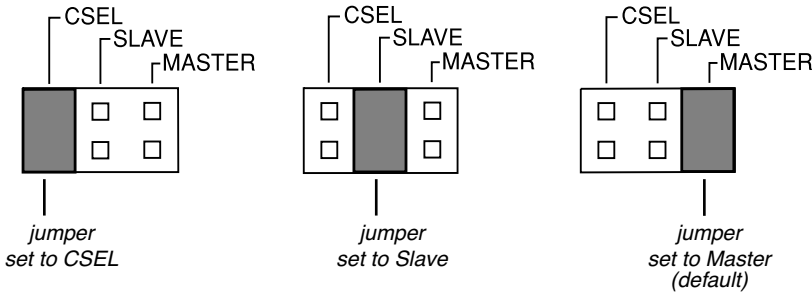

Figure 5. CSEL, Slave, and Master Jumper Pin Settings
- ⑨ **CSEL/Slave/Master configuration jumper:** The CD-RW drive includes three pairs of jumper pins on the rear panel that allow you to set the drive to CSEL, Slave, or Master mode. (For more information, see “Configuring the CD-RW Drive” and Figure 5 on page 7.)
The CD-RW drive features three pairs of jumper pins on the rear panel. By placing the jumper on the appropriate pair of pins, you can set the drive to Master, Slave, or CSEL mode (see Figure 5).